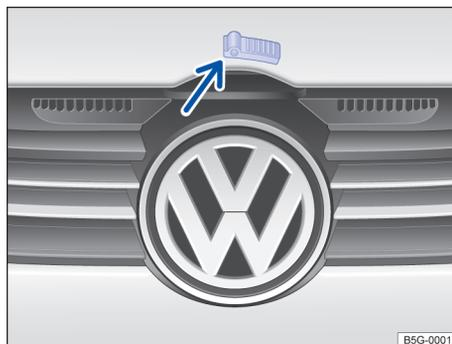

Fig. 167 Above the radiator grille: Outside engine hood release.
- Push the outside hood release lever → fig. 167 (arrow) and lift the hood all the way up. A gas-pressure strut will hold the hood up.